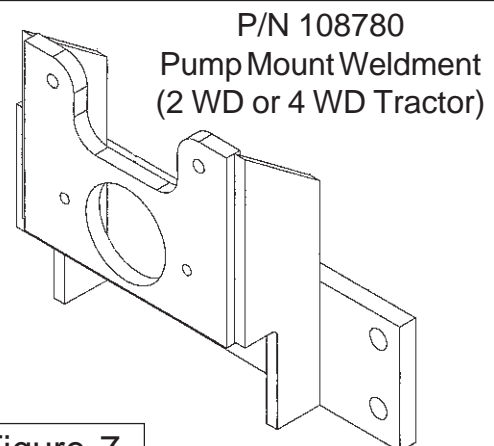

Figure 7
7. Install Machined Pump Mount Plate The machined pump mount plate (P/N 108780) bolts to the front of the bolster in the four existing threaded bolt holes (See Figure 7 & 8). These bolt holes will have plastic plugs in them that will need to be removed (See Figure 8). The pump mount Plate bolts to the tractor with 4 mounting bolts & Lockwasher. Tighten the two upper and two lower bolts down at this time to secure pump mount to tractor